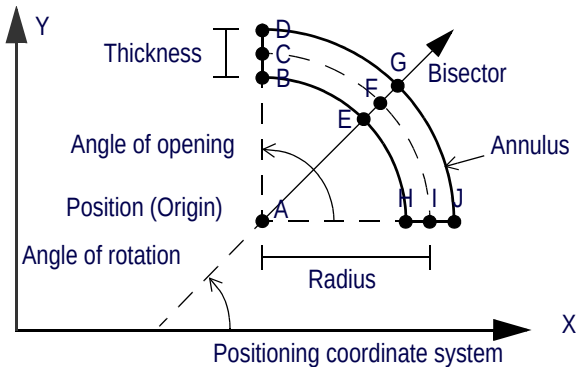

Figure 298 Arc Edge Locator — Adjusting the Sector
- Move the Sector by dragging its border or its origin located at the intersection of its two bounding radii shown with dotted lines. Handle *A* in Figure 298.
- Adjust the Sector's radius by dragging its center located at the intersection between the bisector and the median annulus. Handle *F* in Figure 298.
- Set the Sector's thickness by dragging any of its four resizing handles located at intersections between its two bounding radii and annuli or by dragging the two resizing handles located at the intersections of the bisector and the two bounding annuli. Handles *B*, *D*, *E*, *G*, *H*, and *J* in Figure 298.
- Set the Sector's opening by dragging any of its four resizing handles located at intersections between its two bounding radii and annuli. Handles *B*, *D*, *H*, and *J* in Figure 298.
- Rotate the Sector by dragging the two intersections between the median annulus and the two bounding radii. Handles *C*, and *I* in Figure 298.